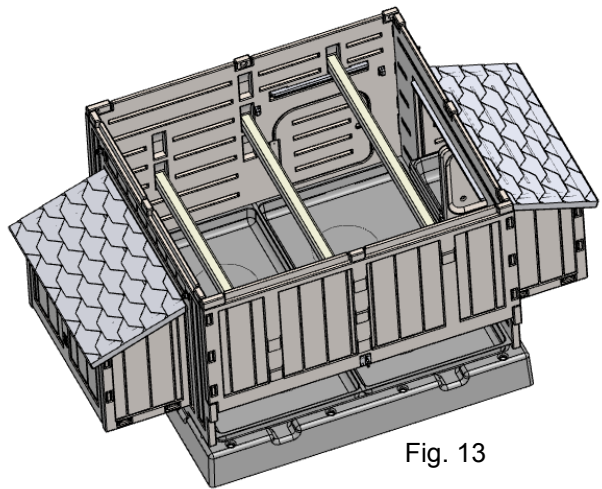

Fig. 13
Step 13: Install the Roosts by seating them into the recesses found in the Front and Back Walls. (Fig. 13) What height and whether or not you want to install all three roosts depends on your situation.